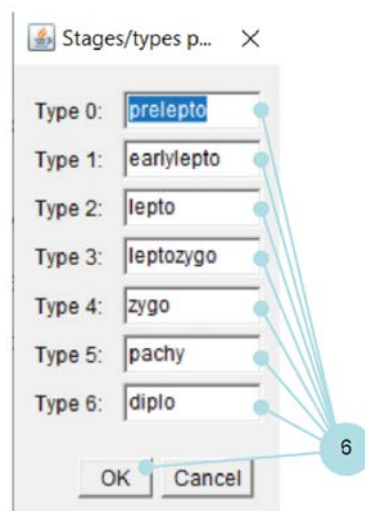

Figure 1.2. the stage/type parameter menu
**STEP6.** The following menu (see figure 1.2) is utilized to specify the names of the different stages. These prefixes will be used to save the cropped nucleus. Fill in the fields but avoid using spaces, as this may cause issues with file identification. You can use underscores if needed. Note that if you change the default prefixes and have already analyzed images before (i.e., after quitting ImageJ once and then returning to cropped image analysis), you may need to modify the default prefixes again by using the "Set Stages/Types Parameters" button. Click on OK.